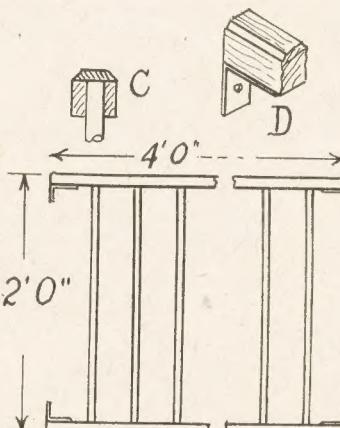

Fig. 3—Rail and fitting for sides
The rails can now be removed from the legs, and a shaving taken off the top rail to level off any bits of the dowel rails that may be sticking up. Finish off this part by gluing a ½in. by 1in. strip of wood over to hide the ends of the rods. This strip looks neater if its edges are bevelled off, as shown at (C) in Fig. 3. The rails can
The sides of the cot comprise two horizontal rails, connected together with the dowel rods before mentioned sizes of timber as for the ends. Dimensions of the sides are given at Fig. 3. The dowel rails are fixed at 4in. centres just the same as the ends of the cot. The side which will be the rear and fixed side of the cot, as distinct from the drop side, is provided with a metal bracket at each end of the horizontal rails. These can be just the common furniture brackets, the 2in. size, such as can be bought at hardware shops.